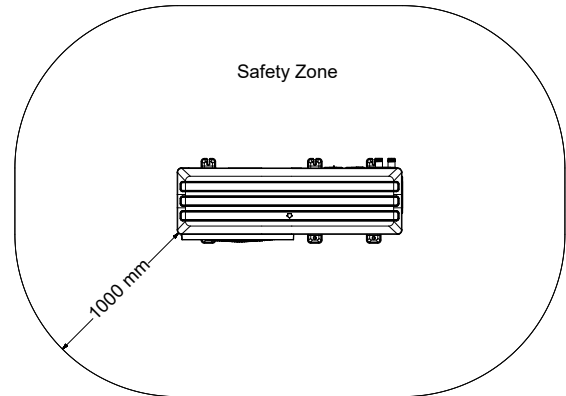

Figure 1. Freestanding installation
The protective safety zone is dependent on the installation areas and adjacent structural installations. See *Figure 1*, *Figure 2* and *Figure 3* to determine the extent of the protective safety zone.
① **IMPORTANT:** Dimensions shown in See *Figure 1*, *Figure 2* and *Figure 3* below are the minimum dimensions for the extent of the protective safety zone.